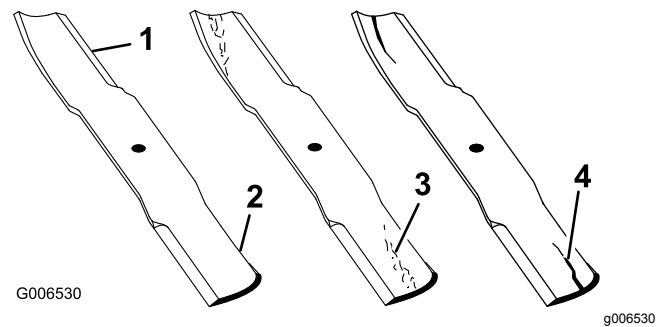

Figure 93
1. Inspect the cutting edges (Figure 93).
4. If you notice any cracks, wear, or a slot forming in this area, immediately install a new blade (Figure 93).